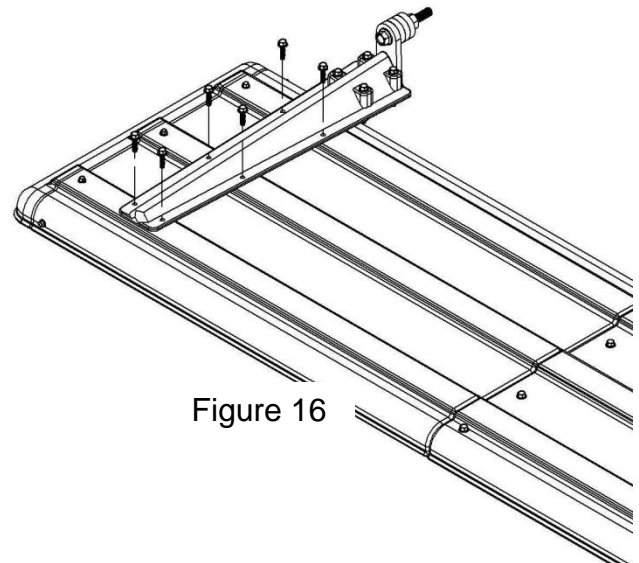

Figure 16
- B. If using the optional PMTF44EC, make sure to mount PB501026 far enough from the end so it doesn't interfere with the bolts used for PMTF44EC (Figure 16).